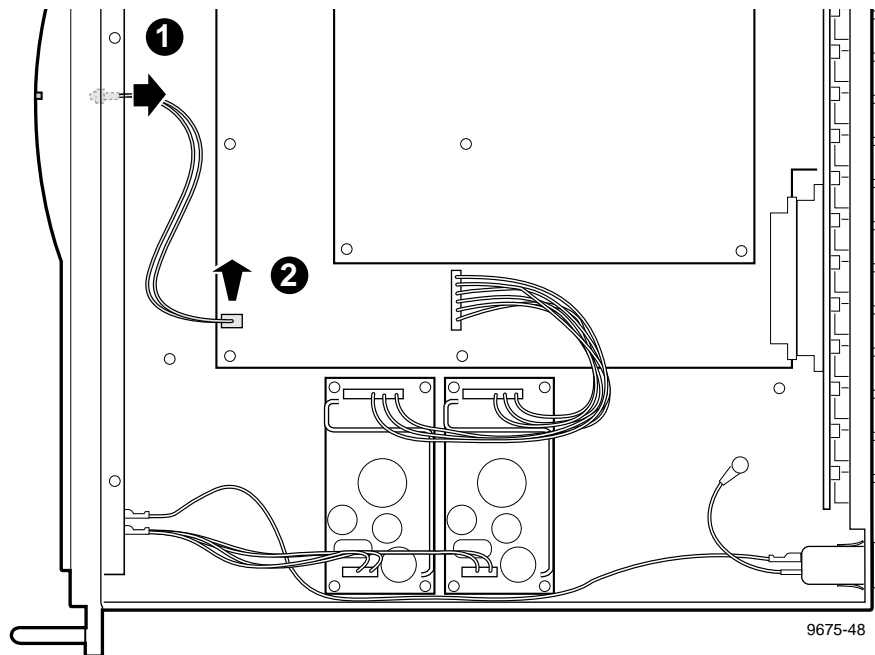

Figure 6-31. PAC208/216 LED Removal
2. Pull the LED out of the front panel (1 in Figure 6-31).
3. Disconnect the cable from the Main Board (2 in Figure 6-31).
1. Connect the new cable to the Main Board (Figure 6-31).